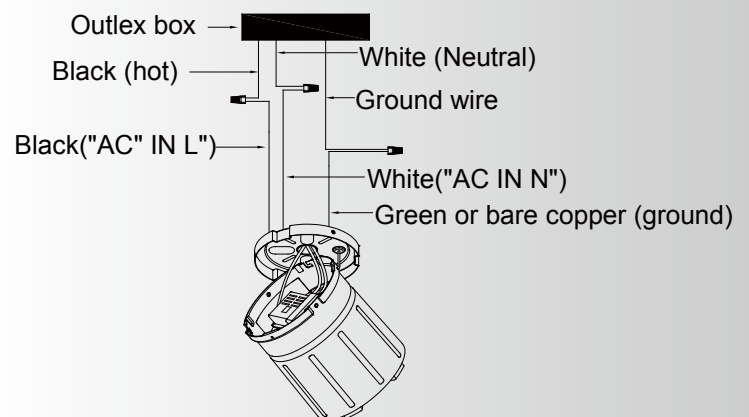

Fig. 11
Step 1. Motor to Receiver Electrical Connections: Connect the BLACK wire from the fan to BLACK wire marked "TO MOTOT L" from the receiver. Connect the WHITE wire from the fan to the WHITE wire marked "TO MOTOR N" from the receiver. Connect the BLUE wire from the fan to the BLUE wire marked "FOR LIGHT" from the receiver. Secure all the wire connections with the plastic wire nuts provided. (Fig. 11)
Step 2. Remote Receiver to Outlet Box Electrical Connections: Connect the BLACK (hot) wire from the ceiling to the BLACK wire marked "AC in L" from the receiver . Connect the WHITE (neutral) wire from the ceiling to the WHITE wire marked " AC in N" from the Receiver . Secure the wire connections with the plastic wire nuts provided . (Fig. 11)
Step 3. If your outlet box has a ground wire (green or bare copper) connect it to the fan ground wires : otherwise connect the hanging bracket ground wire to the mounting bracket. Secure the wire connection with a plastic nut provided. After connecting the wires, spread them apart so that the green and white wires are on one side of the outlet box and black wire is on the other side. (Fig. 11)